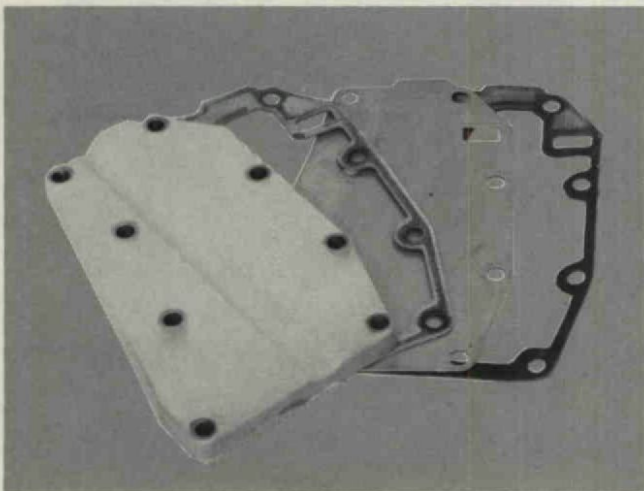

Figure 16. Removing Exhaust Cover.
7. Remove eight (8) hex head screws securing exhaust cover to power head. Remove exhaust cover, plate, and two (2) gaskets. Figure 16. Discard gaskets.